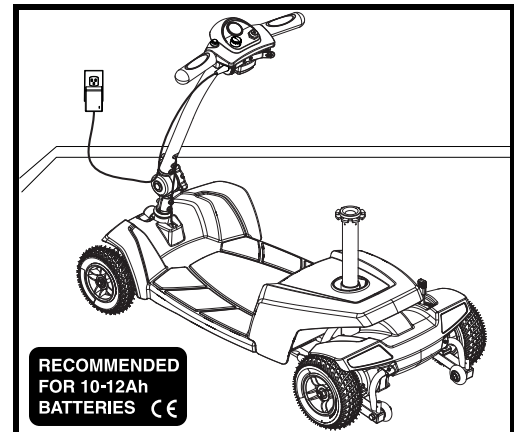

Figure 14. Charging The Batteries (10 Ah)
1. Position your Travel Scooter close to a standard electrical outlet. See figure 14 and 14A.